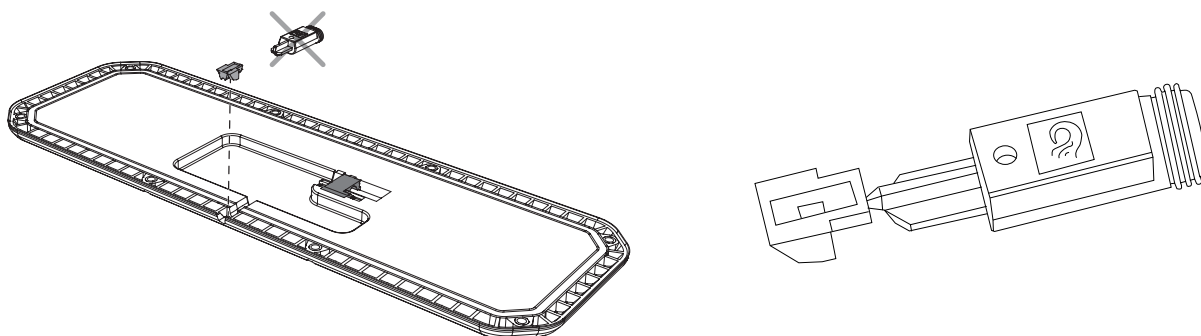

Figure 48. Installation of plug for sealing UCU.
4. Carefully break off the outer part of the plug and place in the recess. See Figure 48.